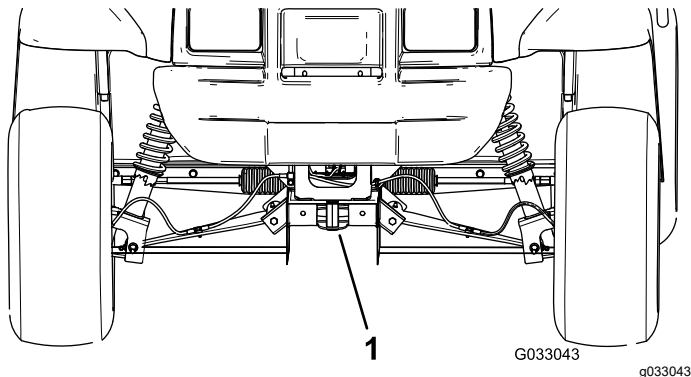

Figure 20
- The lifting point at the front of the machine is located at the front of the frame, behind the towing tongue (Figure 20).